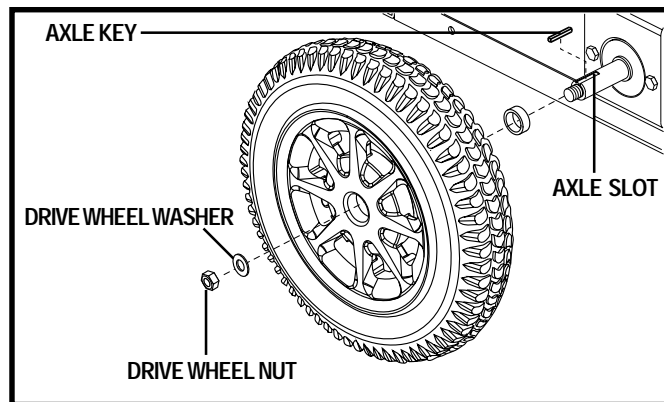

Figure 17. Quantum Jazzy 1650 Drive Wheel
4. Remove the drive wheel nut and washer from the axle. See figure 17.